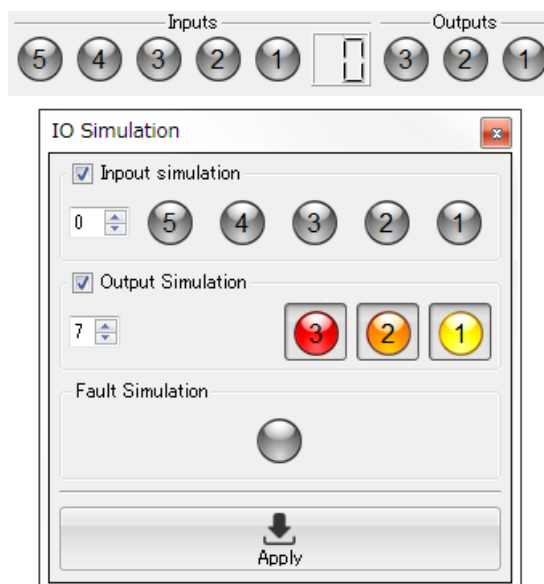

Fig 4.6-5 Display of IO lamps when IO simulation with the input value is 0
- When the input value is 0 and output value is 1 IO simulation cannot be done. Shown in Fig. 4.6-5 the display is in such condition because laser is off in Area 0. During a laser off state the area configuration cannot be configured, and detection determination is not possible either.